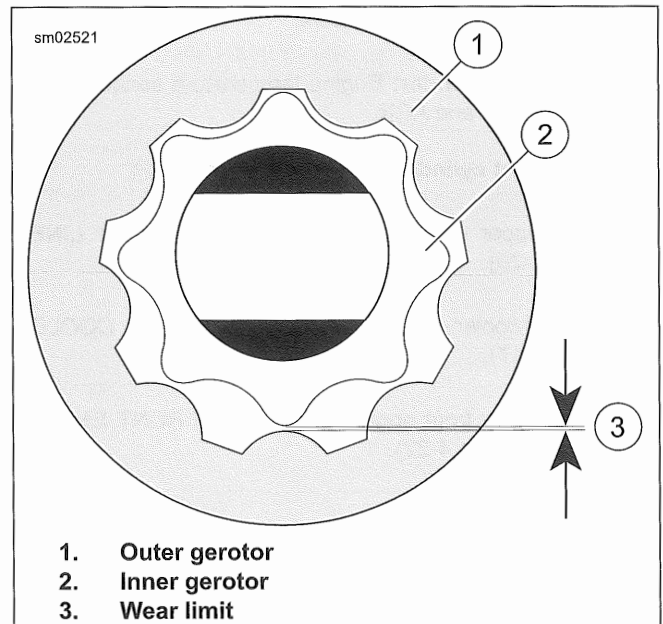

Figure 4-59. Measure Gerotor Sets for Wear
6. See Figure 4-59. Check gerotor wear.